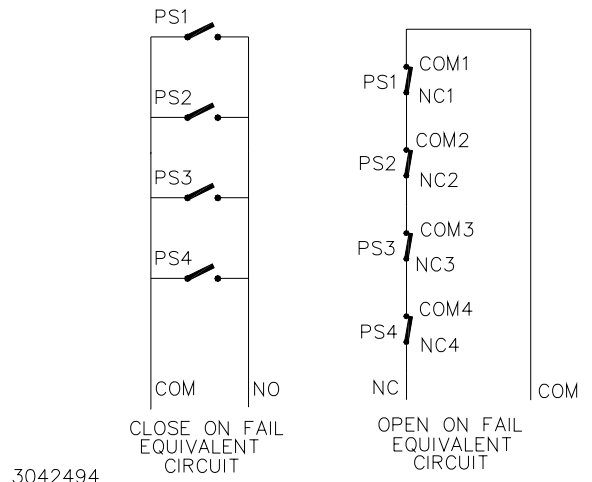
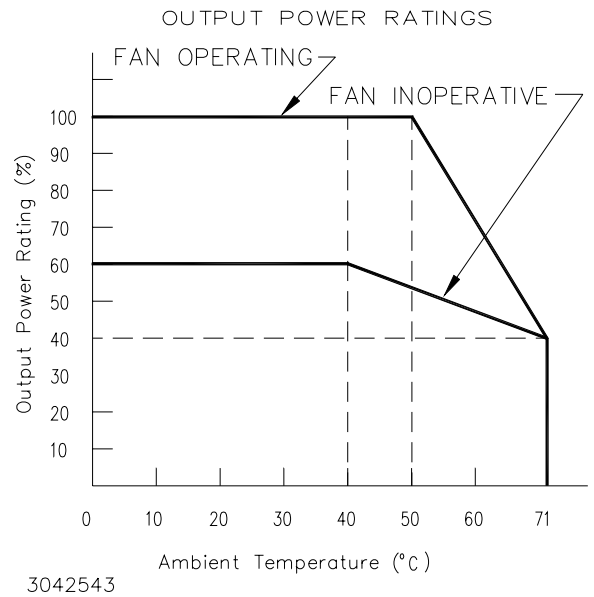
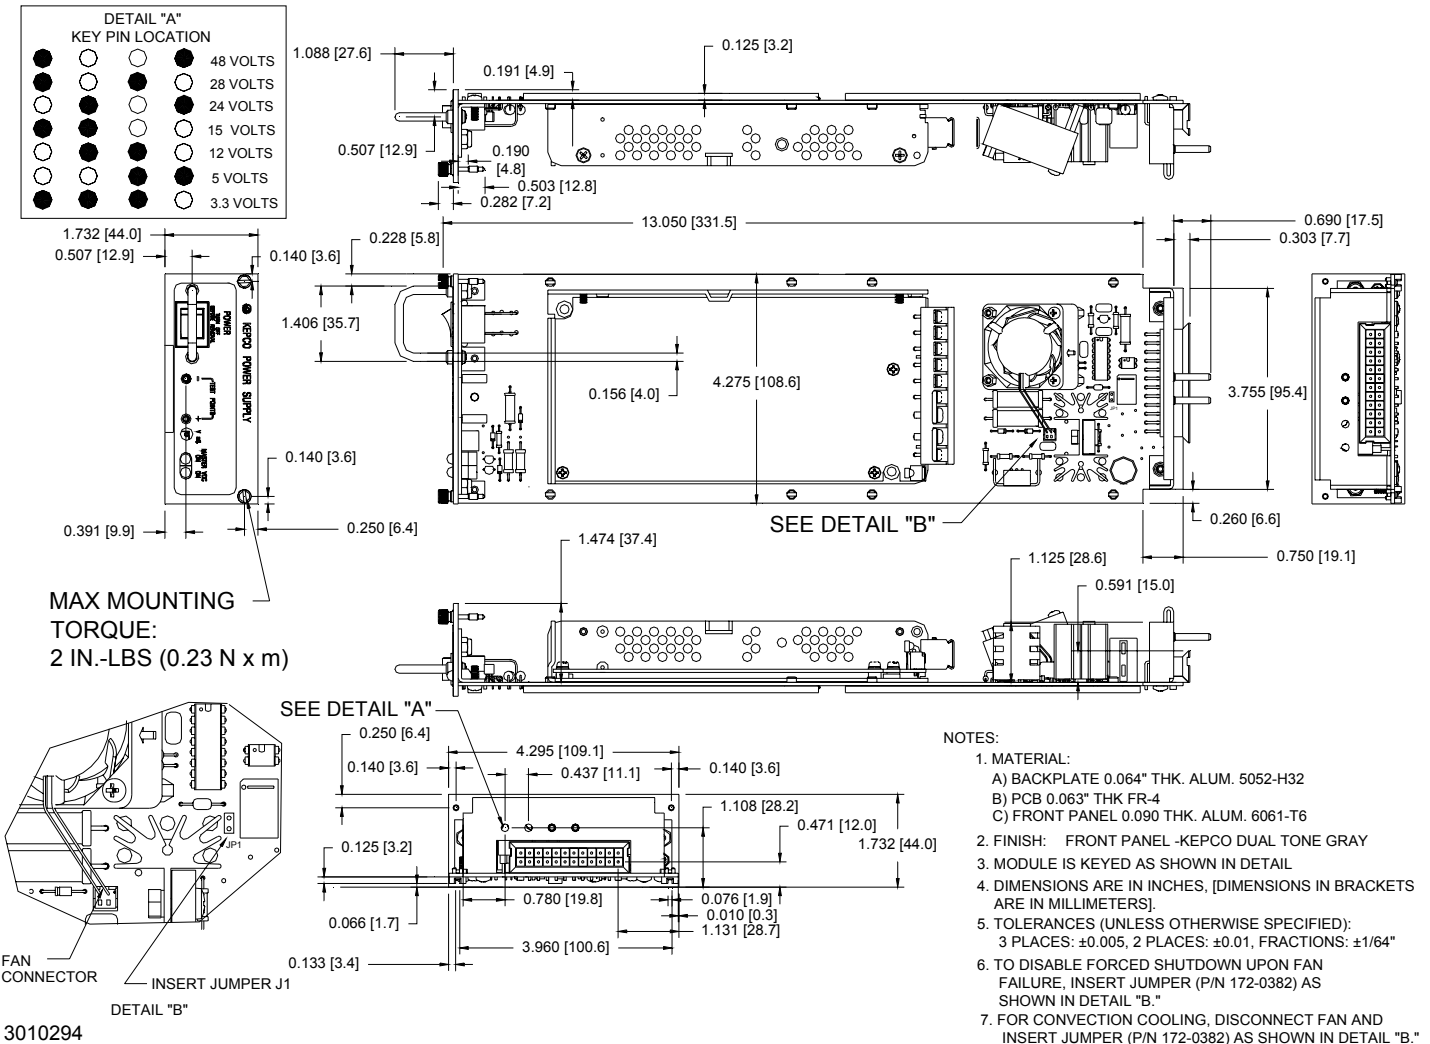

FIGURE 3. TYPICAL ALARM CIRCUIT DIAGRAMS
FIGURE 4. % OUTPUT POWER RATING VS. AMBIENT TEMPERATURE
FIGURE 5. HSF-1UR 150W POWER SUPPLY OUTLINE DRAWING
(1) Overtemperature or overvoltage shuts down the output. Recover by recycling a-c input (30 second delay required before resetting).
(2) 25°C, Nominal. Input
(3) Hiccup mode operation. After the cause of overcurrent is removed, output voltage recovers automatically.
(4) See power rating curve, Figure 4. Exceeding maximum power rating may result in oscillation or a drop in output current or voltage.
(5) Ripple and noise will be approximately 1.5 times higher in the operating temperature range -10 to 0°C.
ALARM: The Alarm NC (normally closed) - Open on Failure and Alarm NO (normally open) - Close on Failure lines are relay contacts referenced to Alarm Common. If the unit fails, the path between Alarm NC - Open on Failure and Alarm Common opens, the path between Alarm NO - Close on Fail and Alarm Common is a short circuit. Figure 3 illustrates typical Close on Fail and Open on Fail circuits to give a failure indication if any one of a number of power supplies fail; refer to RA 19-1U manual for complete information regarding other configurations. Units are shipped so that the alarm will trip and shutdown will occur upon overvoltage, open sense line and fan failure (fan failure shutdown can be disabled, see **COOLING** below and Figure 5). The alarm will also trip upon undervoltage, however shutdown may not occur, depending on the load. After shutdown occurs, a 60 second delay (minimum) is required before turning the unit on again.
Forced shutdown upon fan failure can be disabled by installing a jumper, Kepco P/N 172-0382 (Digikey P/N A26231-N) as shown in Figure 5. This allows the unit to continue to operate with the fan inoperative (see Figure 4 for safe operating conditions); the alarm signals noted above will report an alarm condition, and the VDC ON indicator will either light red (fan supply voltage missing) or flicker between red and green (mechanical failure). If the jumper is installed, the user is responsible for either reducing the load to within the specifications given in Figure 4, or shutting down the unit using the alarm signals provided.
COOLING: All models use forced convection, ball-bearing fans, life expectancy 50,000+ hours. Natural convection can be used if the load does not exceed 50% of max. (see Figure 4). Simply disconnect the fan and install jumper J1 (see Figure 5); the alarm signals described above are disabled and VDC ON lights red; overvoltage and open sense line conditions still force unit shutdown. Contact Kepco's Application Engineering for full-featured natural convection-cooled units.
OPERATING TEMPERATURE: See Figure 4.
DIMENSIONS: See Figure 5.